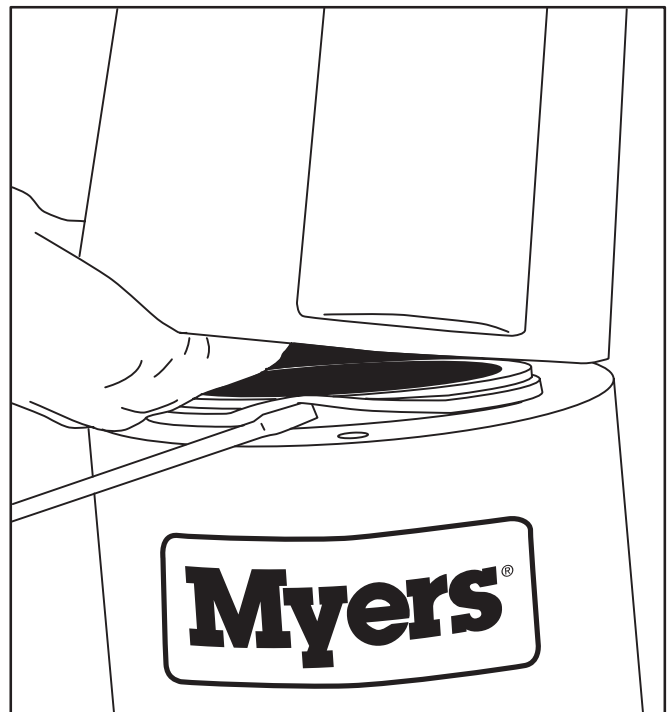

Fig. 12
5. Replace capacitor housing, be sure rubber seal ring is in place. Fig. 12